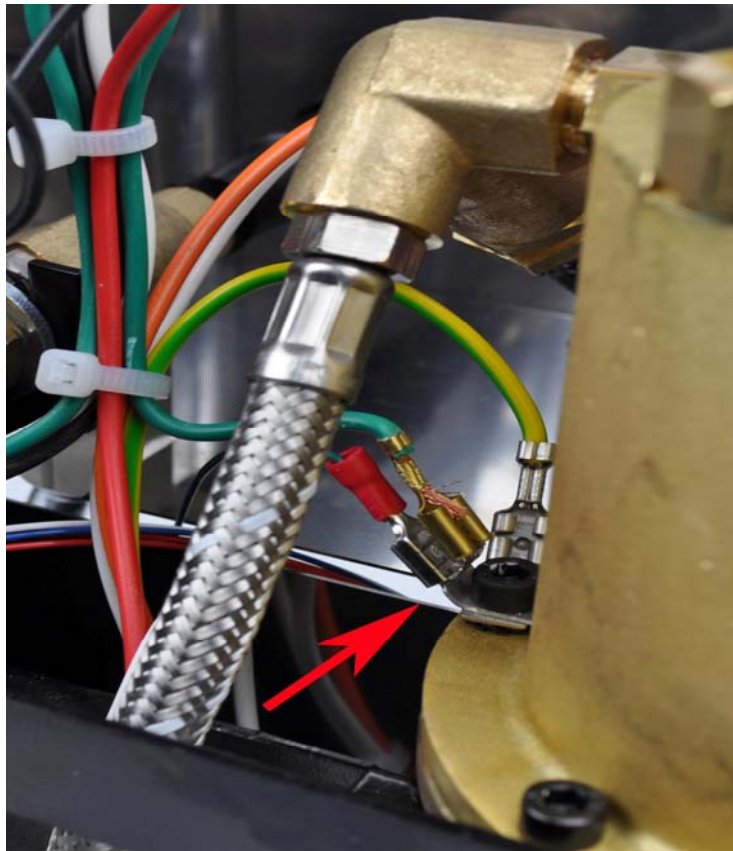

Figure 21. Install the controller box grounding wire to the boiler. Red arrow shows its position
- 5) Install the controller box grounding wire to the boiler. There are two green colored grounding wires installed on the boiler. Remove one of the wires (the one pointing away from the boiler is preferred). Slide the piggyback connector of the controller box grounding wire to the ground tap. Then, install the removed grounding wire to the piggyback connector as shown in Figure 21.